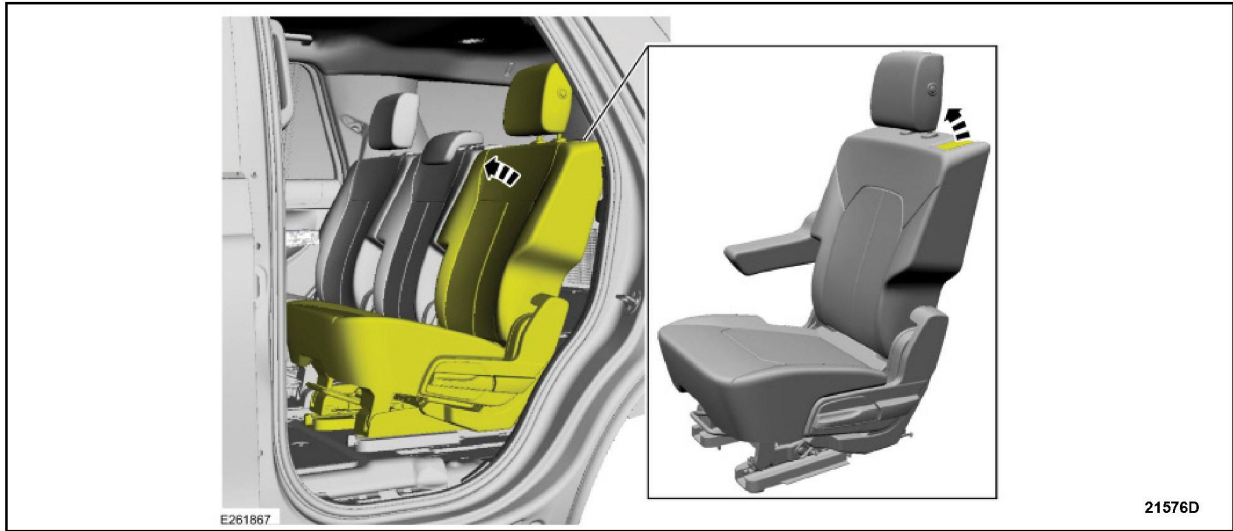

FIGURE 12
4. Position the second row seat forward. See Figure 12.